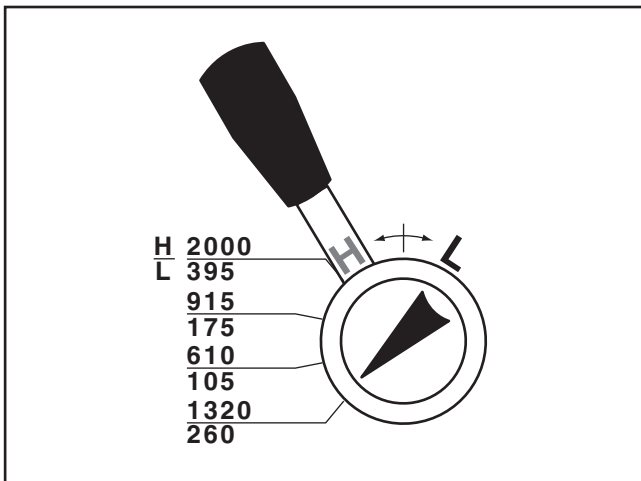

Figure 75. Spindle speed of 1320 RPM selected.
2. Move the spindle speed range to the high position (to the left), as illustrated in **Figure 75**.